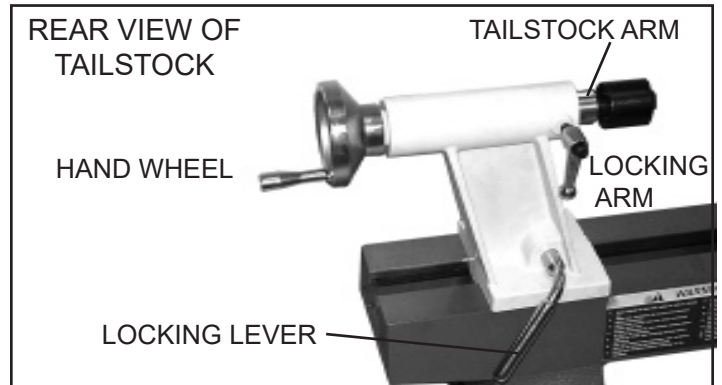

FIG. 1
1. Remove the tailstock assembly from the lathe bed, by releasing the locking lever handle that is located at the rear of the tailstock. FIG. 1.